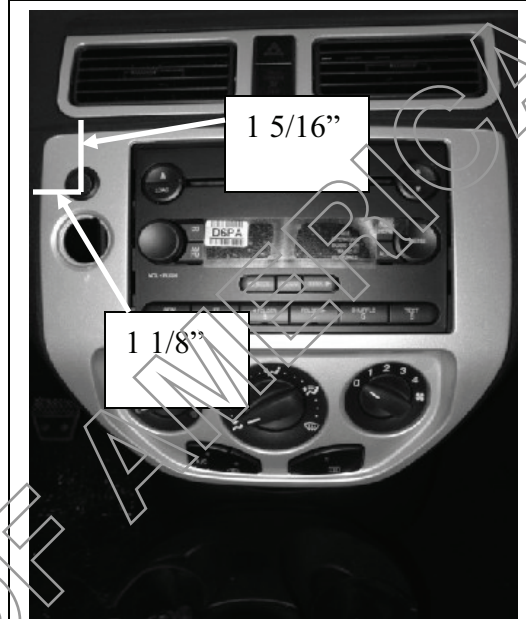

FIGURE 1
3. Measure $1 \frac{5}{16}$ " down from the top of the audio unit trim, and $1 \frac{1}{8}$ " in from the driver side of the trim. Drill a hole $\frac{3}{4}$ " in diameter for nitrous switch. **(FIGURE 1)**
5. Install interior nitrous arming switch (00-1703-C08569*) into the hole drilled in step 3 **(FIGURE 1)**